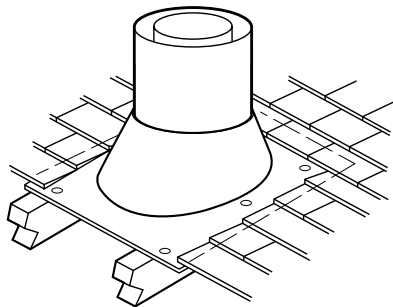

Figure 29
Step 7. Secure flashing by nailing along the perimeter into roof using 8d nails or equivalent. If shingled roof, slide upper end and sides of roof flashing under shingles (trim if necessary), seal the top and both sides of the flashing to the roof with roof caulking. Cover nail heads with roof caulking (Figure 29).